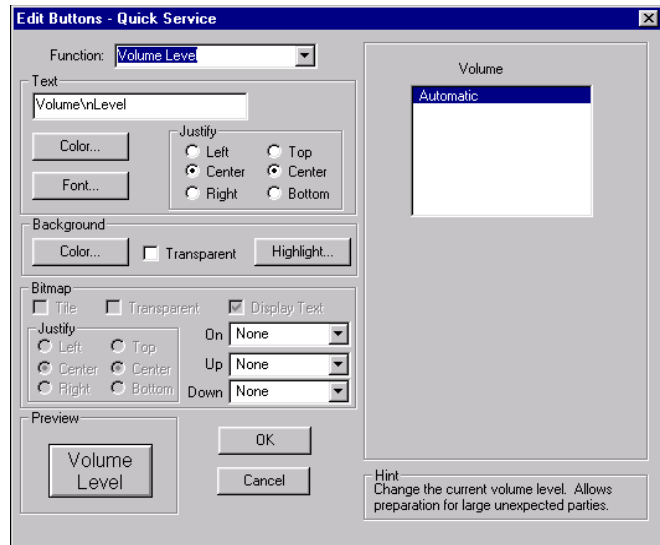

Figure 5-115 Volume Level Button Function
1. Select **Volume Level** from the **Functions** drop-down list. An additional option displays, as shown in Figure 5-115: